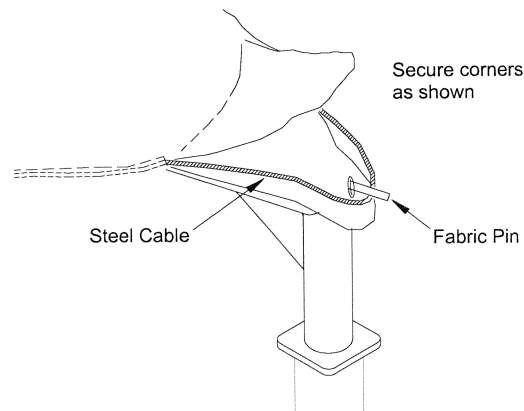

Figure 24
10. Attach the second come-along to the other cable. Ensure that the two cables that cross over the posts are not on the steel rafter but cross over the lower corner flap. Figure 24.